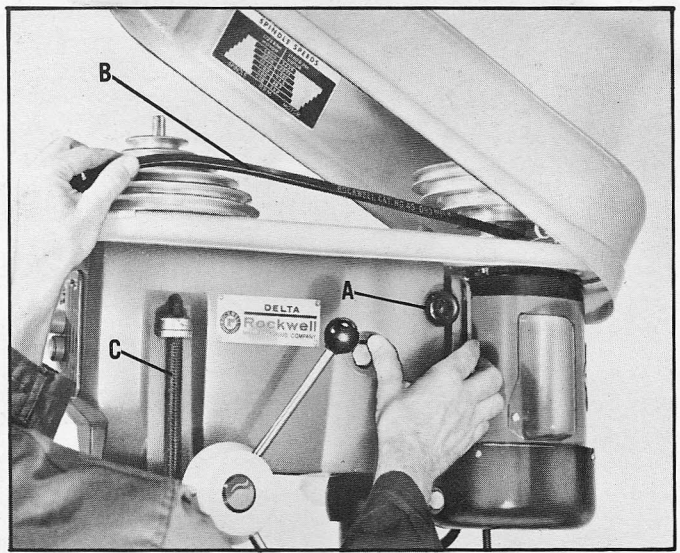
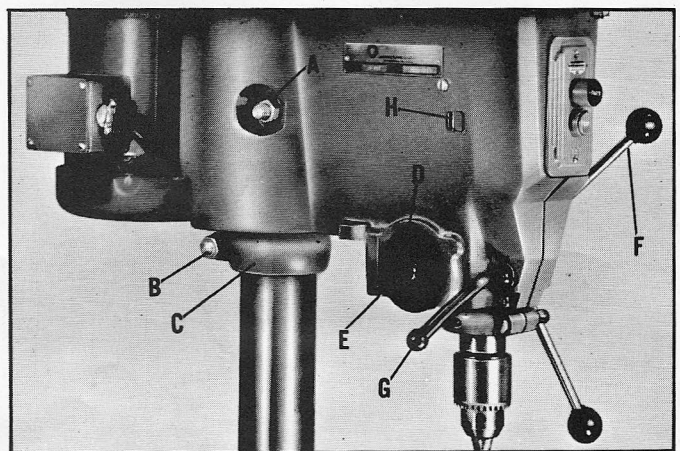

Fig. 3.
Fig. 4.
Your 15" Drill Press has been completely assembled and tested at the factory. All that is necessary for you to do is loosen the clamp nut (A) Fig. 4, on left hand side of head, that holds the head to the column, slide the head up until casting top is level with the top of the column and retighten clamp nut. Then loosen clamp nut (B) Fig. 4, move support collar (C) up against bottom of head, and tighten clamp nut.
6. Loosen hand knob (A) Fig. 3, and push motor and motor plate in towards Drill Press Head as far as it will go. Then tighten hand knob (A).
8. To install V-belt (B) Fig. 3, loosen hand knob (A), push motor and motor plate in towards drill press head as far as it will go, as shown in Fig. 3. Then tighten hand knob (A). Assemble belt (B), loosen hand knob (A) and push motor back to desired belt tension and retighten hand knob.
For the purpose of automatically returning the spindle upward after the hole has been drilled, a clock spring is provided enclosed in the case (D) Fig. 4. This spring has been properly adjusted at the factory and should not be disturbed unless absolutely necessary. If at any time it is necessary to adjust it proceed as follows:
1. To increase the tension of the spring, turn the screw (E) Fig. 4, which is located underneath the head, clockwise. CAUTION: BE CAREFUL NOT TO BOTTOM RETURN SPRING WHILE TURNING SCREW (E) FIG. 4, CLOCKWISE, THERE SHOULD BE ENOUGH SLACK LEFT IN SPRING TO PERMIT LOWERING THE SPINDLE THE FULL AMOUNT OF TRAVEL.
2. To decrease tension of the spring, turn the screw (E) Fig. 4, counterclockwise.
3. The tension of the spring can be tested by pulling down the hand feed lever (F) Fig. 4, and testing to see if the quill will return to the up position. Be sure the quill locking lever (G) Fig. 4, is loose while testing. NOTE: Before determining if this adjustment is necessary, make sure the stop rod (C) Fig. 3, runs freely up and down and is not twisted in the slot or guide of the head casting.
The ball bearings in the quill and spindle pulley are grease-sealed for life. The quill is oiled through oiler (H) Fig. 4, which is on the left side of the drill press head. The head has a groove on the inside to allow the oil from the oiler (H) Fig. 4 to flow down and oil the pinion shaft and rack. The spindle return clock spring should be oiled three or four times a year. This is lubricated through the oil holes provided in the clock spring housing (D) Fig. 4.